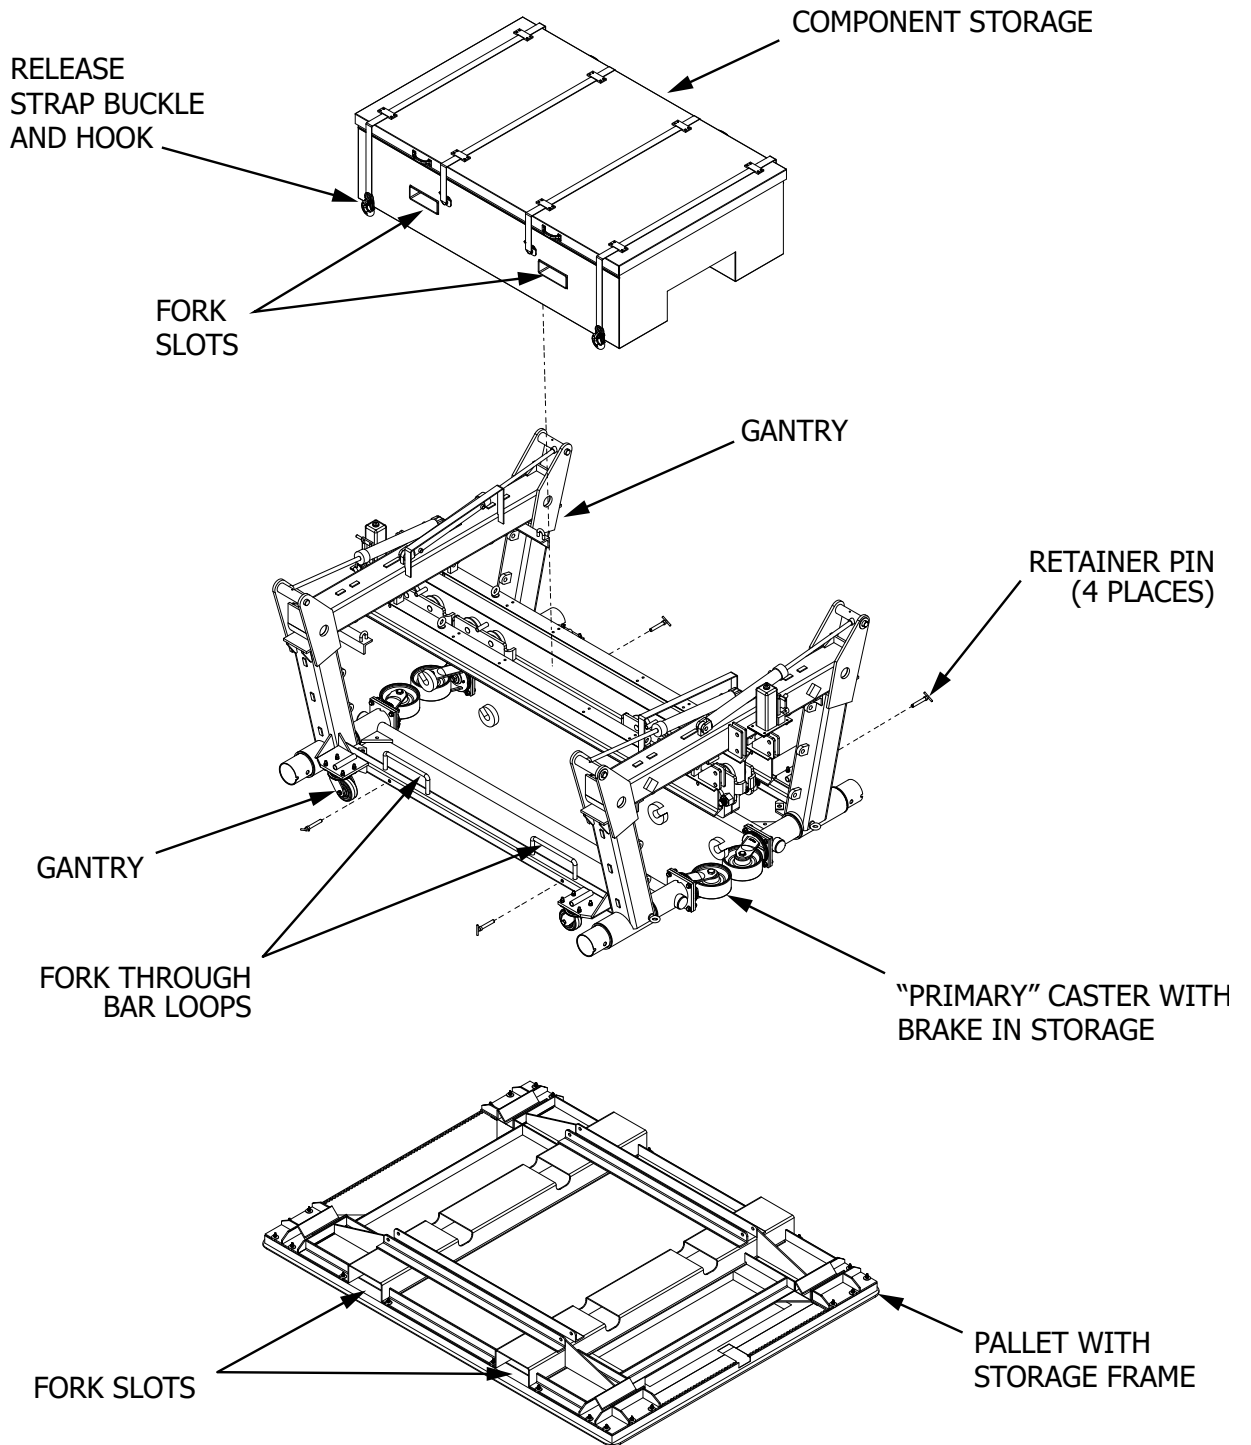

Figure 5.6-1 - General Preparation - Packing and Unpacking
2. Remove component storage box (Figure 5.6-1)
3. Separate gantry from pallet frame (Figure 5.6-1)
- a) Remove retaining pins at four (4) places.
- 1 - (4) lower column leg sections
- 2 - (4) mid column leg sections
- 3 - (4) upper column leg sections
- 4 - (4) side rail extensions
- 5 - (2) center rail extensions
- 6 - (4) cable turnbuckle assemblies